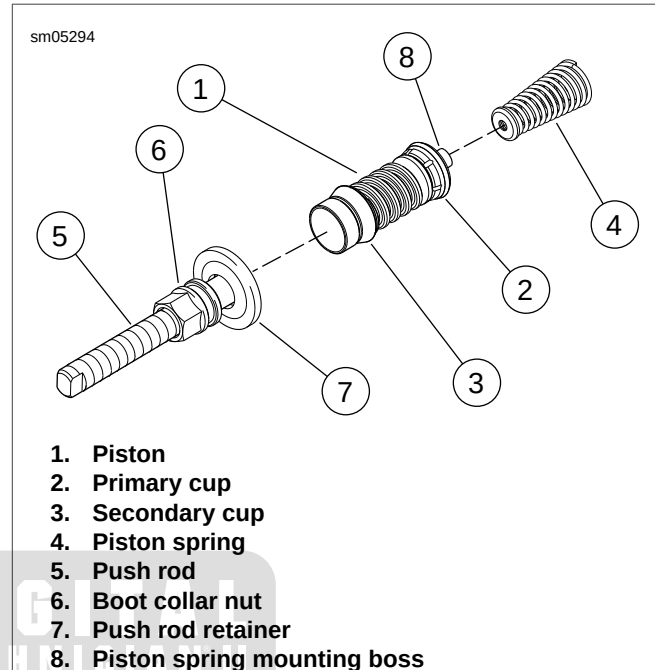

Figure 2-113. Rear Master Cylinder Piston, Push Rod and Spring Assembly
4. See Figure 2-113. Lubricate master cylinder bore, **new** piston (1) with **new** secondary cup (3), and **new** primary cup (2) with CCI #20 BRAKE GREASE supplied in the service parts kit.